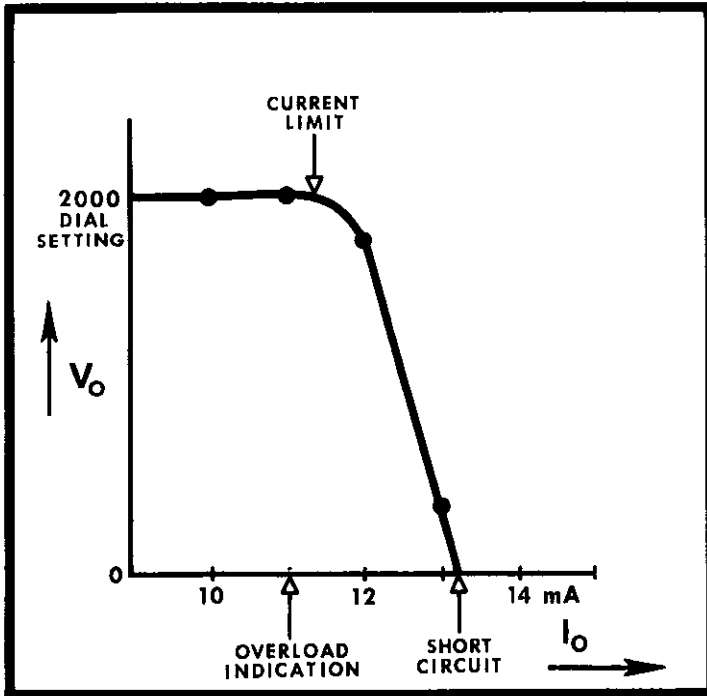

FIGURE 4. Current Limiting.
b. Current Limiting Characteristic.- The Model 244 current limiting is shown graphically by the typical V-I characteristic curves in Figure 4. The OVERLOAD Indicator is factory-adjusted to turn on at approximately 11 milliamperes. However the output voltage remains constant for current exceeding 11 milliamperes as shown. The current limiting occurs typically from 11.3 to 12.2 milliamperes depending on the dialed voltage.